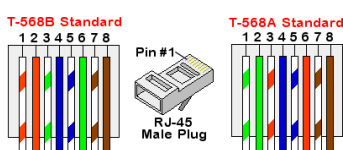

Figure 34: Ethernet connector – pin layout.
CAT6 cables have eight wires (four twisted pairs), as shown in the pin layout of the Ethernet connector in Figure 34. Wire colors may differ from one cable to another. You can use either wiring standard, as long as both sides of the cable have the same pin-out and color-code.
- Insert the eight wires into an RJ45 connector, as shown in Figure 34.